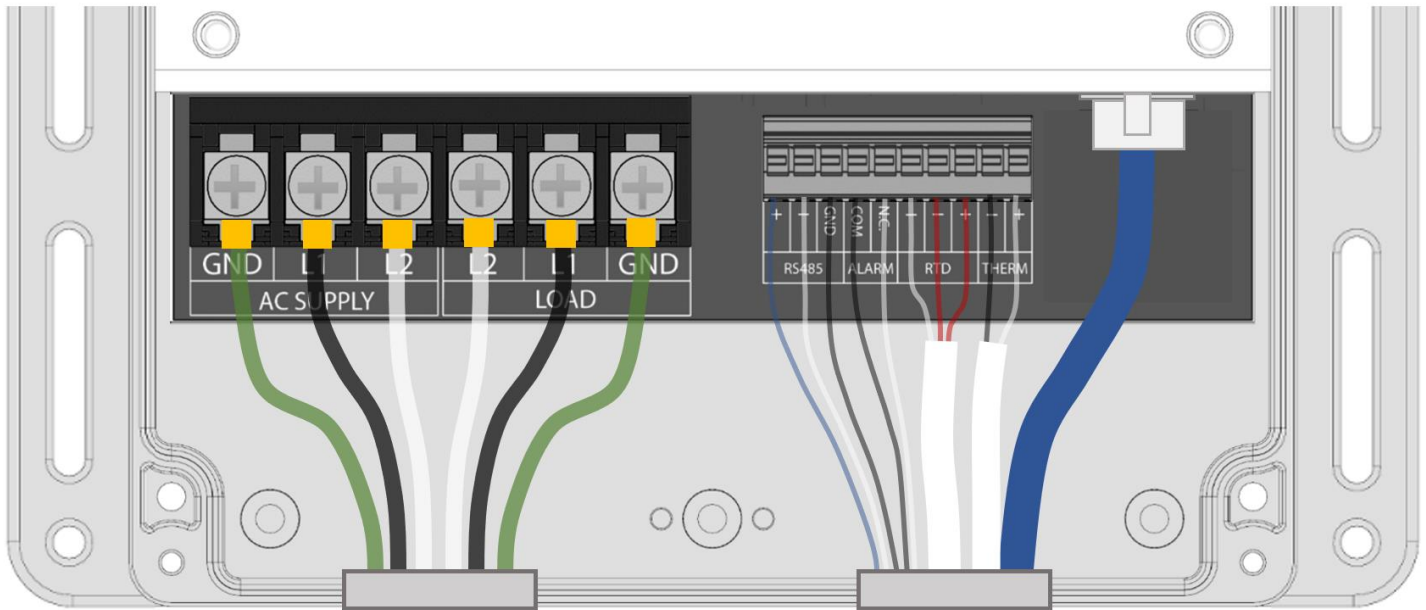

Figure 3: Top view of the Frio S1 controller with the wiring cover removed, showing all possible wiring connections.
2. Connect low voltage sensor and communications wires according to the image in Figure 3.
3. Connect heat trace leads to the **LOAD** side as shown in Figure 3. The ground sheath of the heat trace must be connected to the ground terminal on the controller.
4. Connect the power leads to the **AC SUPPLY** as shown in Figure 3. The ground connection on the controller must be properly connected to ground in accordance with local and national electrical codes.